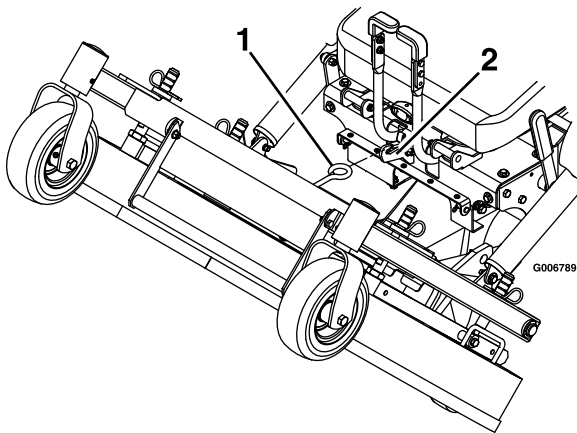

Figure 9
3. Using deck lift handle, lift deck up and latch in “up” position (latch is located at front center of seat) (see Figure 9).
1. While firmly holding onto deck lift handle, unhook deck latch from tractor section and slowly lower deck to ground (see Figure 9).